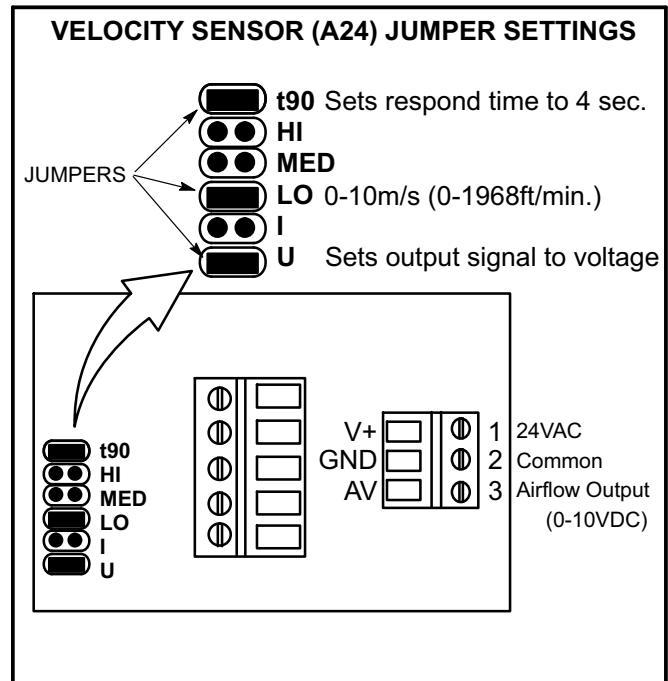

FIGURE 37
Note - The configuration ID setting (H) must be paired with the "low" jumper position on the A24 control (see figure 37). The jumper is factory-set at low range (0-1968ft/min).